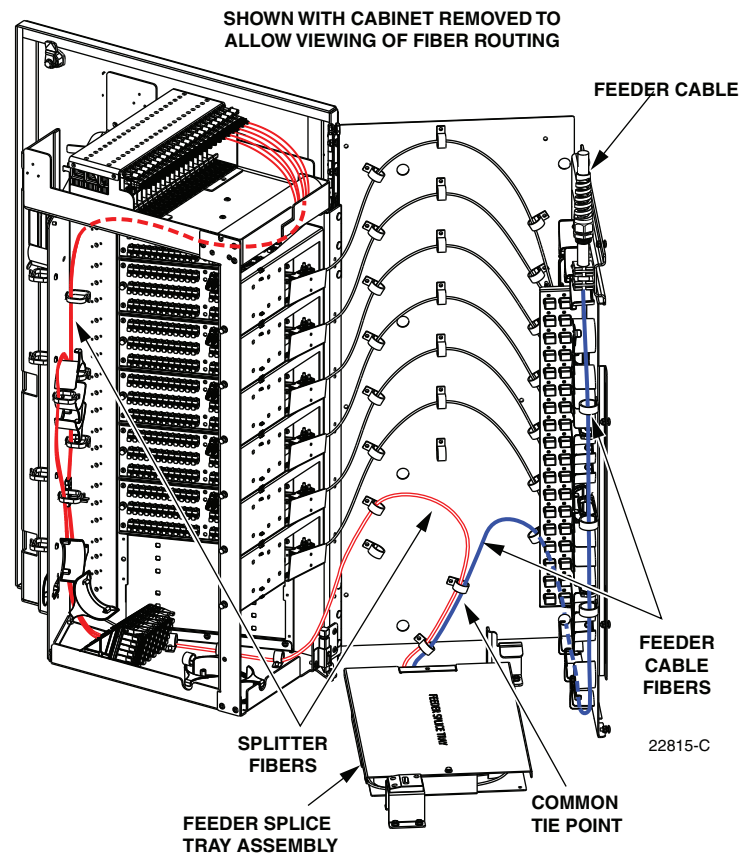

Figure 20. Feeder Splice Tray and Feeder/Splitter Fiber Routing
1. Locate the feeder splice tray assembly which is mounted at the bottom of the cabinet, as shown in Figure 20, and locate the splitter input fibers which are routed to the feeder splice tray.